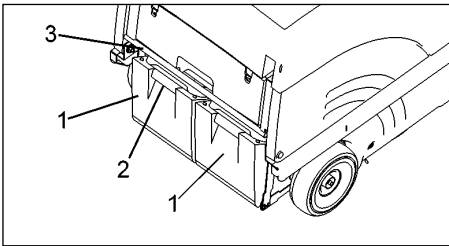

Fig.8
- Fold bow (Fig. 8/3) up
- = the dirt hoppers (Fig. 8/2) are lowered.
- Use the recessed grip (Fig. 8/1) of one of the hoppers to lift it lightly and extract it.
- Re-insert dirt hopper (Fig. 8/2) and fold down the bow (Fig. 8/3).